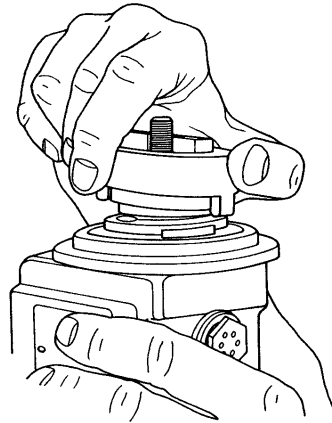

Figure 7.3
- B. Grasp shell of impulse coupling assembly and gently pull the assembly outward to clear the latching ears of the impulse hub assembly. (See Figure 7.3).